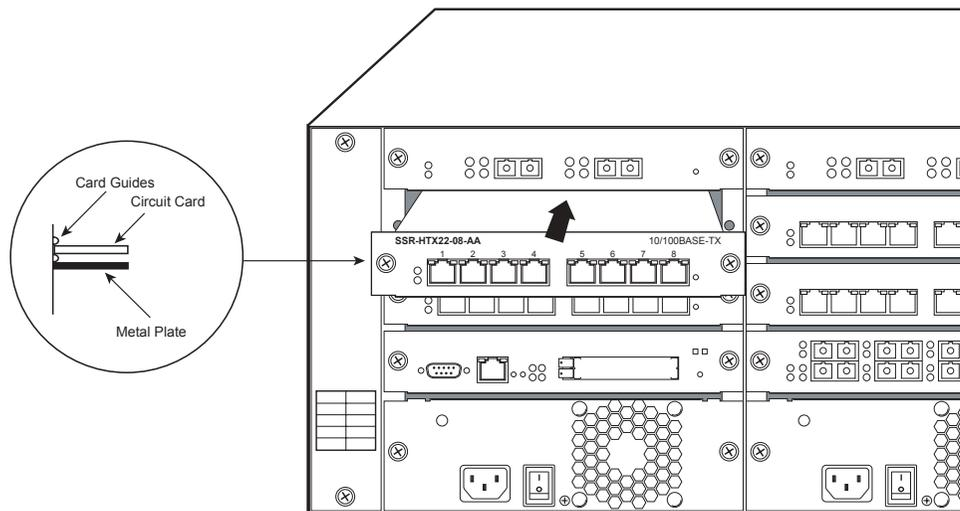

Figure 34. Installing a line card
2. **Align the backsheet of the line card between the card guides** as shown in Figure 34.